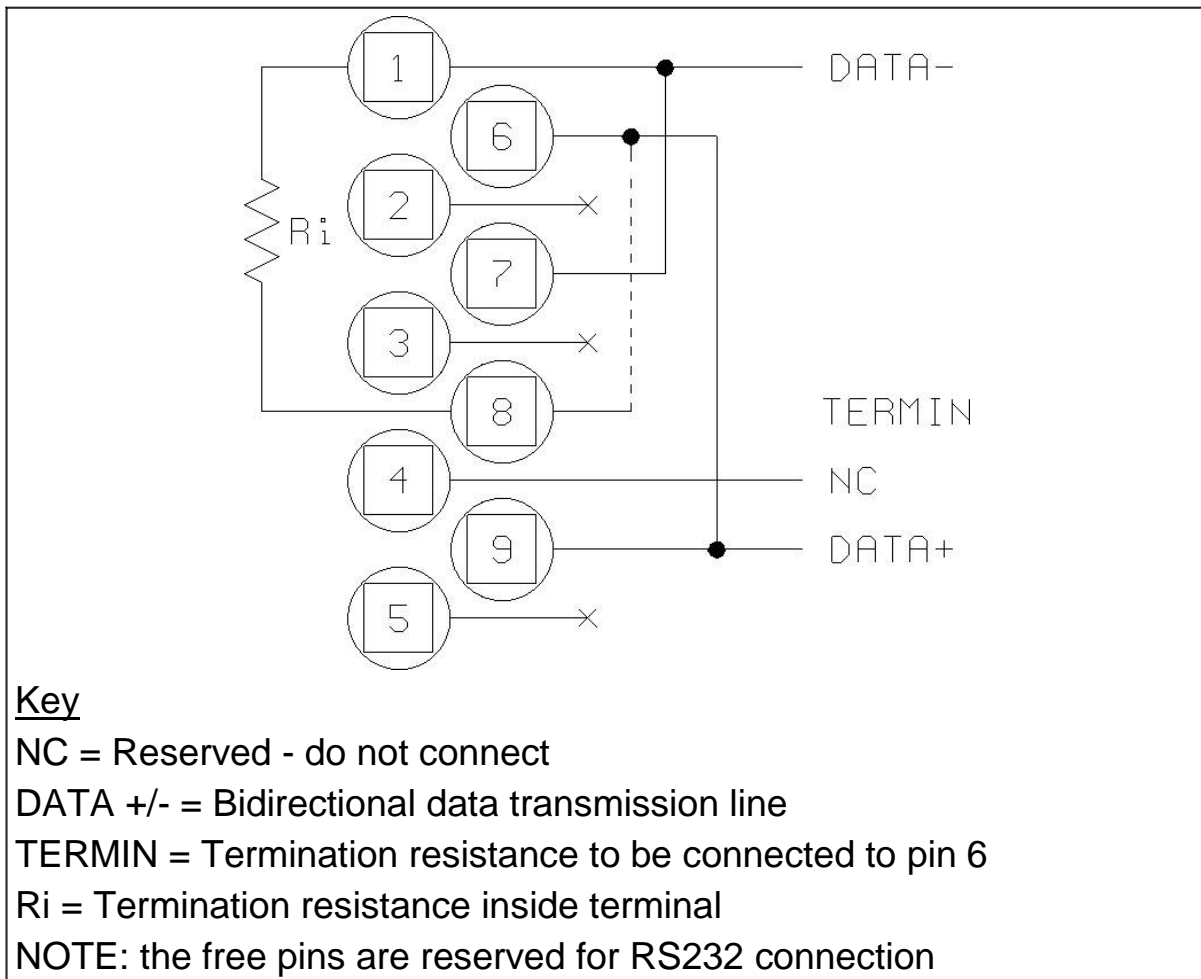

Figure 3.8 - Pinout for RS485 serial port connection (log0006.gif)
- ✓ connect together pins 9 and 6 and pins 1 and 7 ( Figure 3.8 on page 1-30)